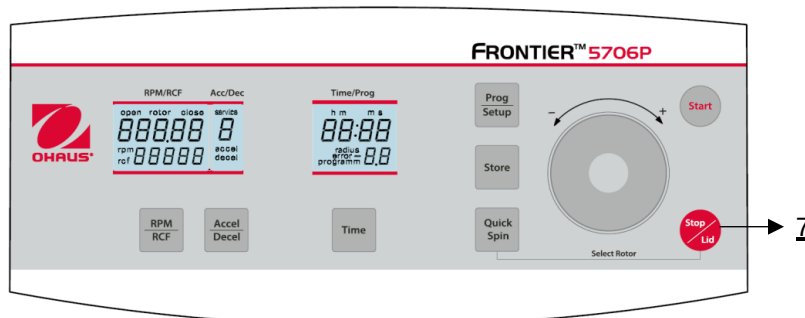

Figure 26
By the **"Stop/Lid"** key (7) (see Figure 26) you can interrupt the run at any time. After pressing the key, the centrifuge decelerates with the respective pre-selected intensity down to stand still.